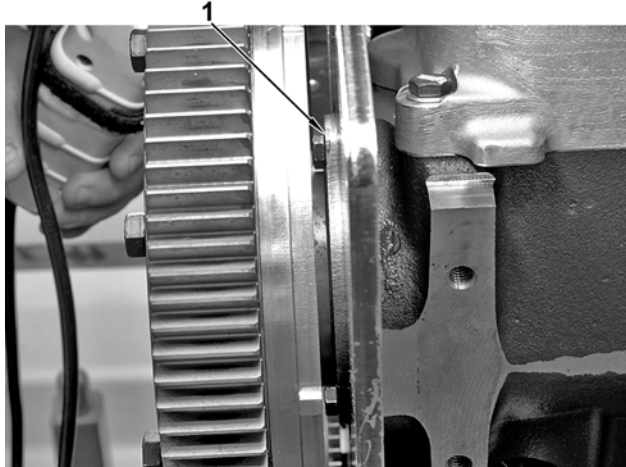

Figure 3 Camshaft Thrust Plate
8. Confirm presence of camshaft thrust plate (Figure 3, Item 1).